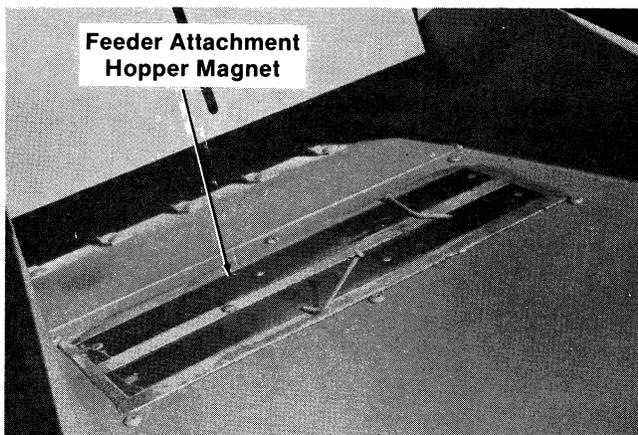

Fig. 6-9
**FEEDER ATTACHMENTS (Fig. 6-9 thru 6-13)**